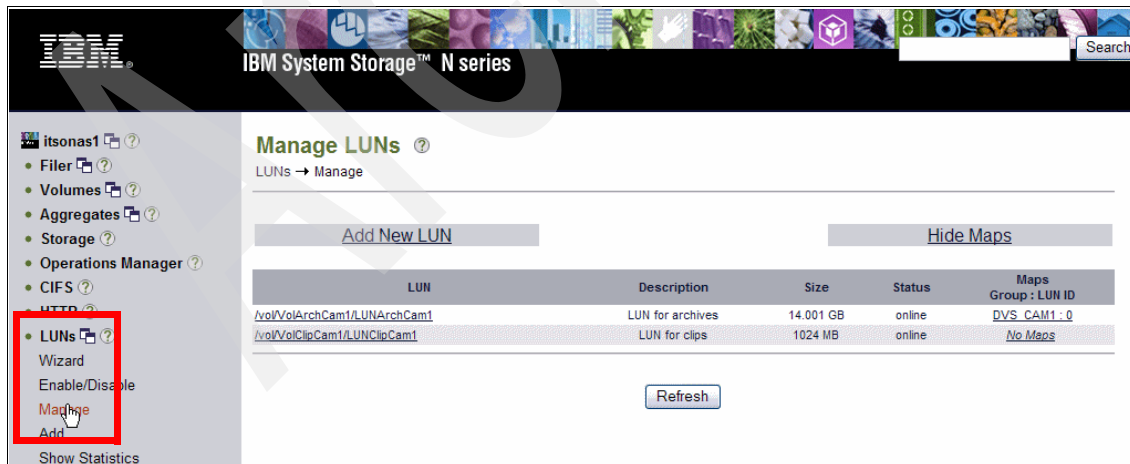

Figure 7-34 Verification of the map
- Select **LUNs → Manage** to verify that the map is now defined for this LUN, as shown in Figure 7-34. LUNArchCam1 is now mapped with the initiator group DVS\_CAM1, with LUN ID 0.